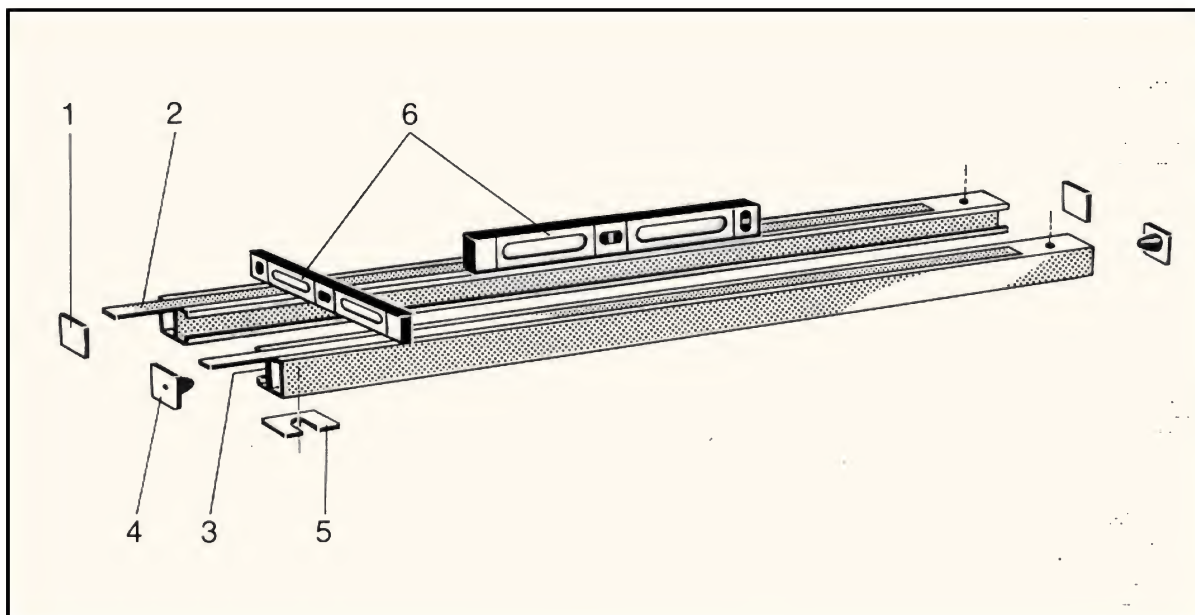
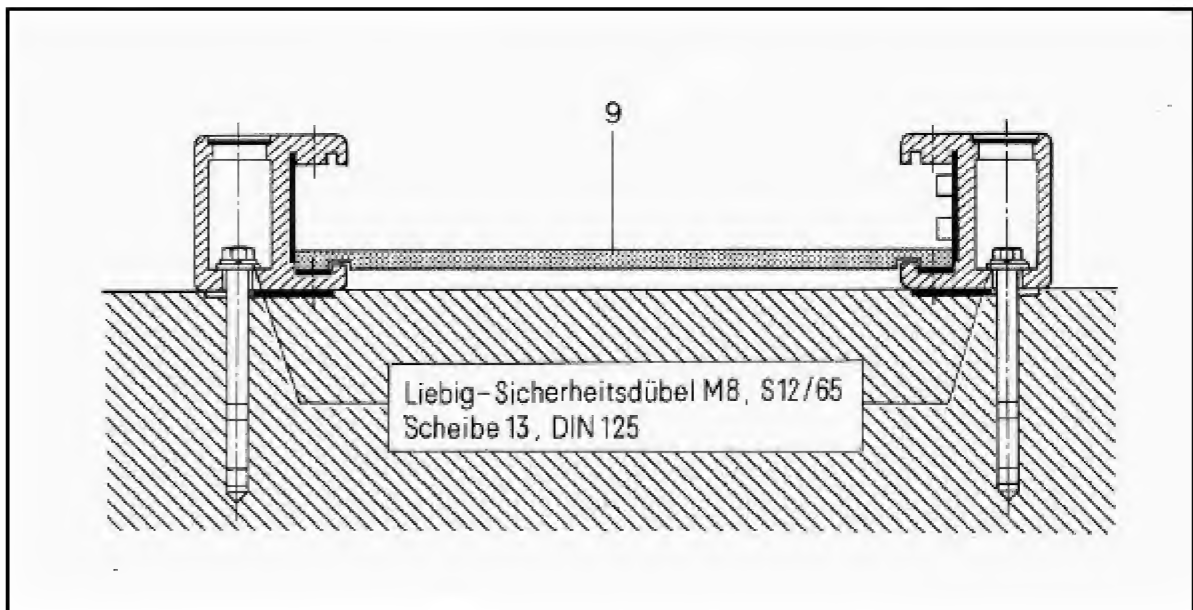

Fig. 2
Fig. 3
Remove the covers (Fig. 2/item 1) on the side of the floor rails and remove trim covers (item 2). Place floor rails over prepared mounting holes.
**Note:** guide rail with brakestrip (Fig. 2/item 3) and end stops (item 4) is to be placed to the front.
With a water level (Fig. 2/item 6) the highest spot of one floor rail has to be determined by the help of shims (Fig. 2/ item 5) (supplied with installation material). Arrange heavy duty bolts acc. to Fig. 3, insert through floor rail and tighten screws slightly.
If necessary level and shim the second floor rail to the same level surface as the first rail is (Fig. 2/item 5). Check with water level (Fig. 2/item 6) and adjust distance of rails with distance gauge (Fig. 3/item 9) (supplied with installation material). Finally tighten all 14 mounting bolts with torque wrench 50 Nm.
Once again check adjustment of the floor rails. Insert each one shim into the two floor rails (Fig. 2/item 2).
To move along the column with carriage use a wooden board of about 6mm (.236") thickness for bearing protection. Place the wooden board right next to the head or foot end side of the floor rails (depending on which side the column is to be brought in). Bring the column in upright position and put it on the wooden board. Carefully move the column into the rails keeping attention on the horizontal brake and the SID switch to prevent them from being damaged. Then install cover on back rail (Fig. 2/item 1) and cover on front rail (Fig. 2/item 4).